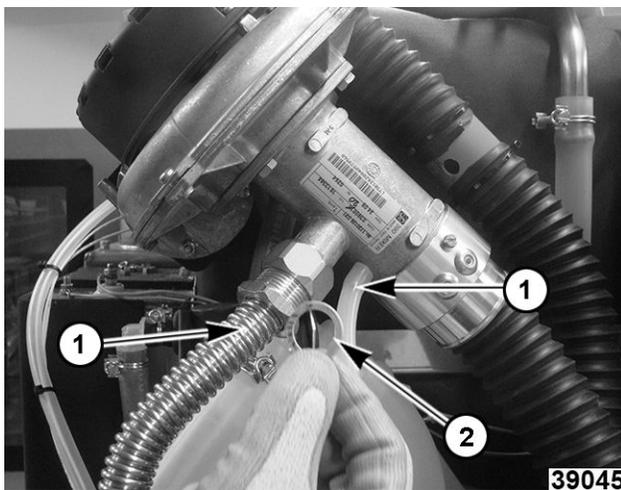

Fig. 98
NOTE: When disconnecting gas pipes, there will be a gasket (2, Fig. 98). Take care not to lose gasket or it may fall into an inaccessible area of the unit.
3. Note and disconnect burner gas piping (1, Fig. 98) connections.